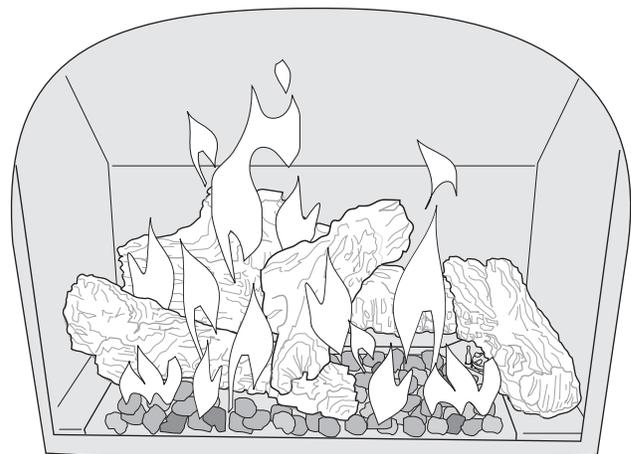

Figure 38. Flame appearance on the "high" setting after approximately 15 to 20 minutes burning.
3. BURNER ADJUSTMENT: This stove is equipped with a variable gas control valve that allows easy adjustment of the flame height appearance and heat output. To adjust the flame between the HI and LOW setting, rotate the HI/LOW knob, located in the center of the valve face. **Flame height will adjust approximately 1" to 2" between the LOW and HIGH settings. See fig. 38.**